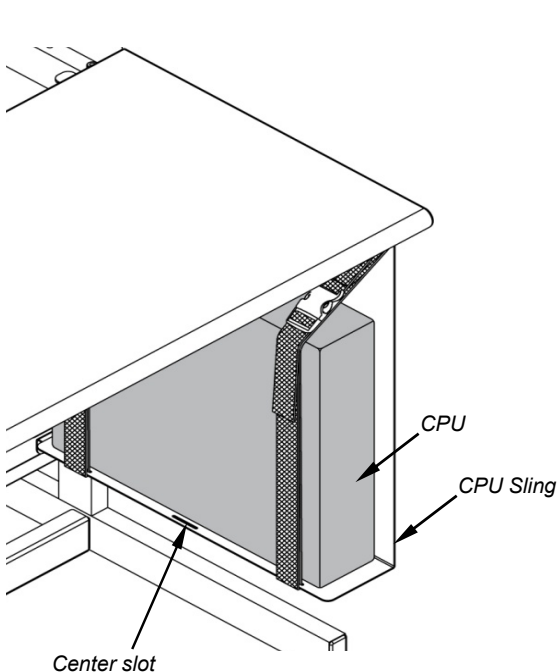
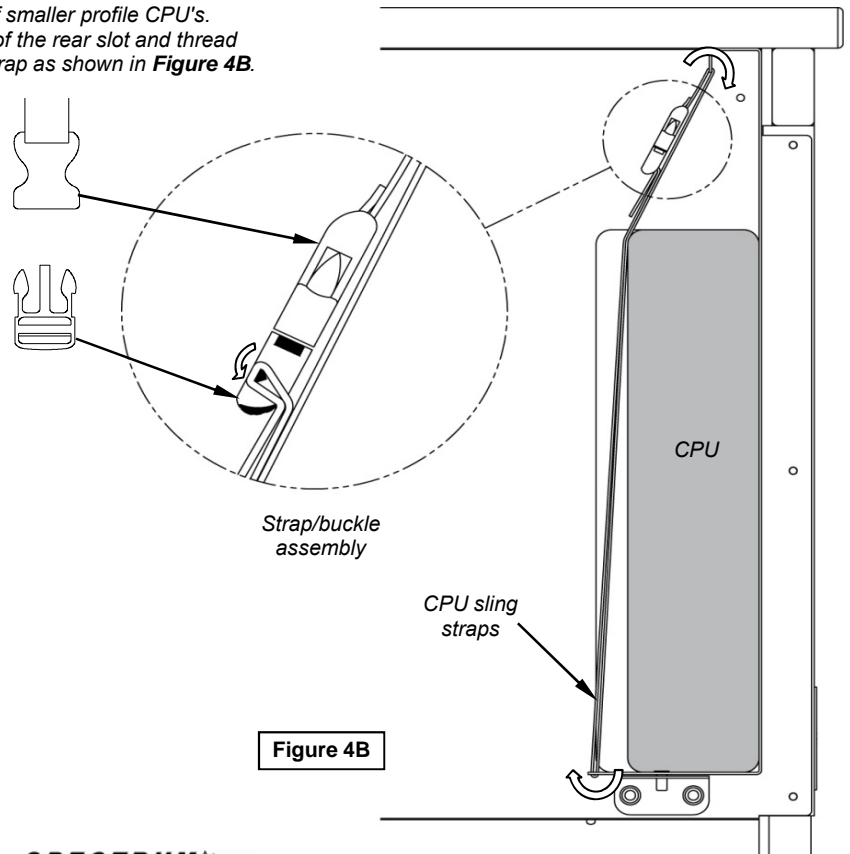

Figure 4A
Figure 4B
- B. Make sure the CPU will be supported by both straps. Tighten the straps around the CPU while keeping the buckles positioned as high as possible to avoid interference. **Figure 4A.**
Note: The center slot can be used for better support of smaller profile CPU's. If the center slot is necessary, take the rear strap out of the rear slot and thread into the center slot shown in **Figure 4A.** Thread the strap as shown in **Figure 4B.**